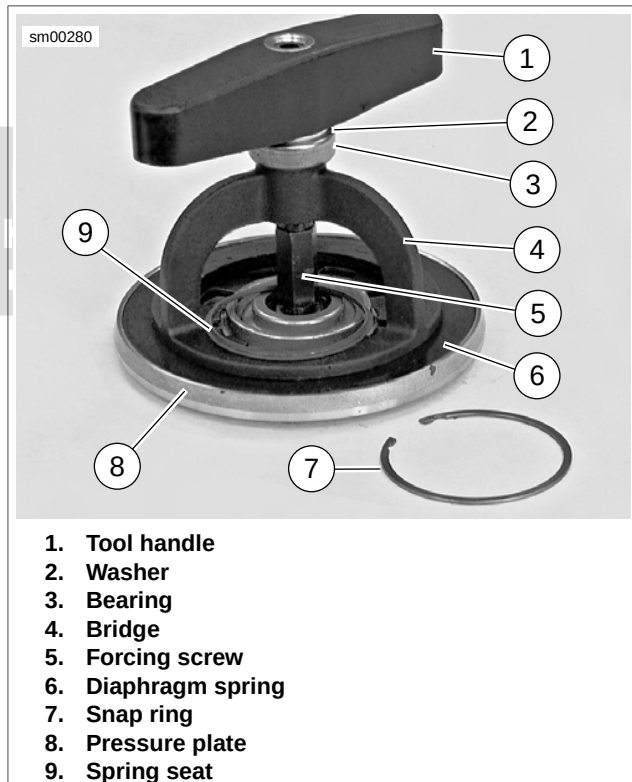

Figure 6-14. Pressure Plate Assembly
See Figure 6-14. Turn compressing tool handle only the amount required to release spring seat and remove snap ring (7). Excessive compression of diaphragm spring could damage clutch pressure plate.
5. See Figure 6-14. Remove pressure plate assembly.
- a. Place a wrench on the clutch spring forcing screw (5) flats to prevent the forcing screw from turning.
- b. Turn compressing tool handle (1) clockwise until tool relieves pressure on retaining ring (7) and spring seat (9). Remove and discard retaining ring.